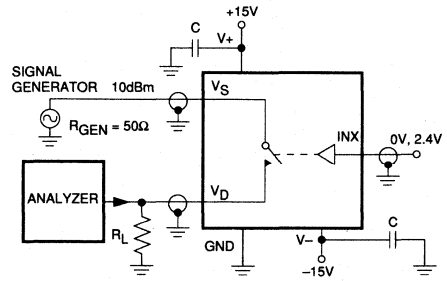

Figure 4. Off-Isolation Test Circuit
**Note 5.** Between any two switches. See Figure 4.